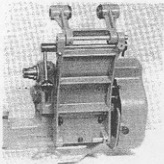

Fig. 4
*a* Mount the countershaft arm/swing head assembly (1) on the back of the Lathe bed, using the three ½" dia. x 1½" long B.S.F. screws and washers which are provided. See Fig. 4. Lightly tighten the screws only at this stage.